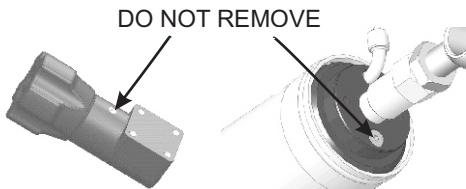

Figure 7
- Rotate the adjuster bracket assembly down until the indexing tab engages the frame and torque the supplied 3/8-16 nylock-nut to 25 ft/lbs. When mounted, it should look as illustrated in figure 7 (note foot-peg assembly not shown for clarity).